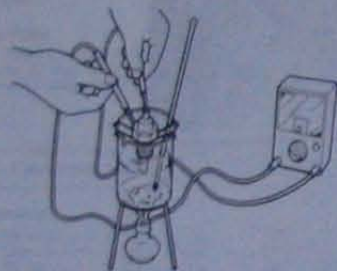

Fig. 3.8 Testing the cooling system temperature switches and senders (Sec 5)
- 4 Referring to Fig. 3.8, suspend the switch in a saucepan or suitable vessel together with a thermometer. Fill the vessel with water so that the switch probe is completely submerged. Connect an ohmmeter between the switch terminal and the switch body.
- 5 Referring to Fig. 3.8, suspend the sender unit in a saucepan or suitable vessel together with a thermometer. Fill the vessel with water so that the sender unit probe is completely submerged. Connect an ohmmeter between the sender unit terminal and the unit body.